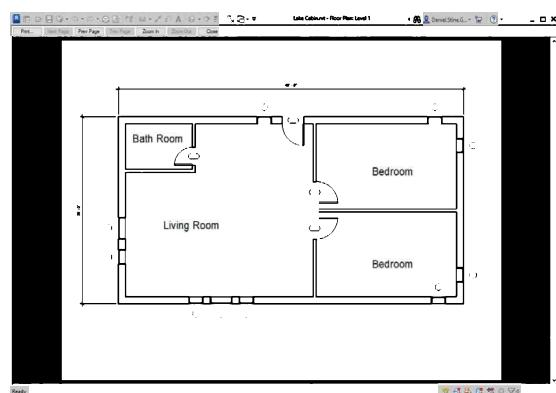

FIGURE 2-6.5 Print Preview
7. Click the **Preview** button in the lower left corner. This will save paper and time by verifying the drawing will be correctly positioned on the page (Fig 2-6.5, next page).